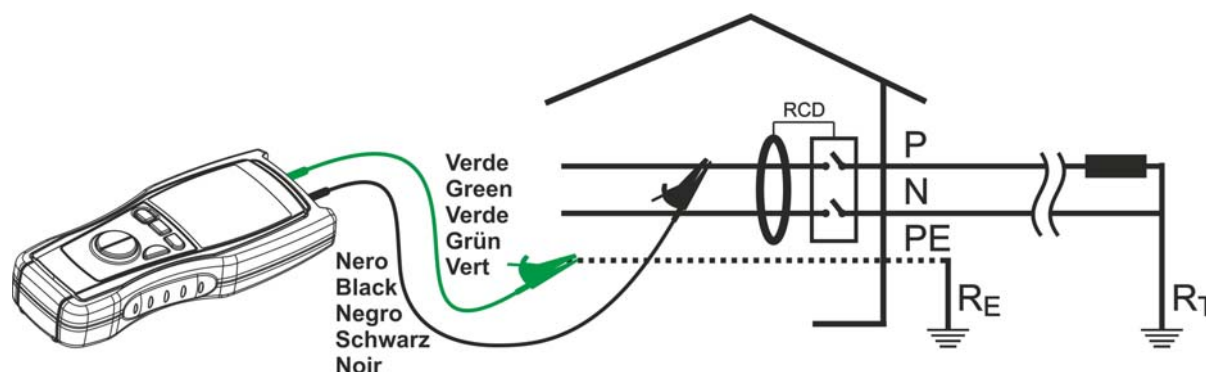

Fig. 11: Connection of the instrument's terminals during  $M\Omega$  test
6. Connect the instrument's terminals to the end of the conductors on which the insulation test must be performed (see Fig. 11)